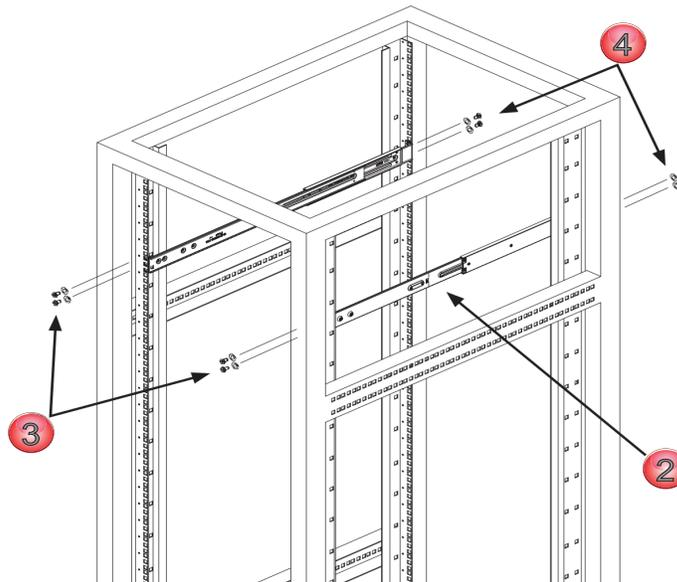
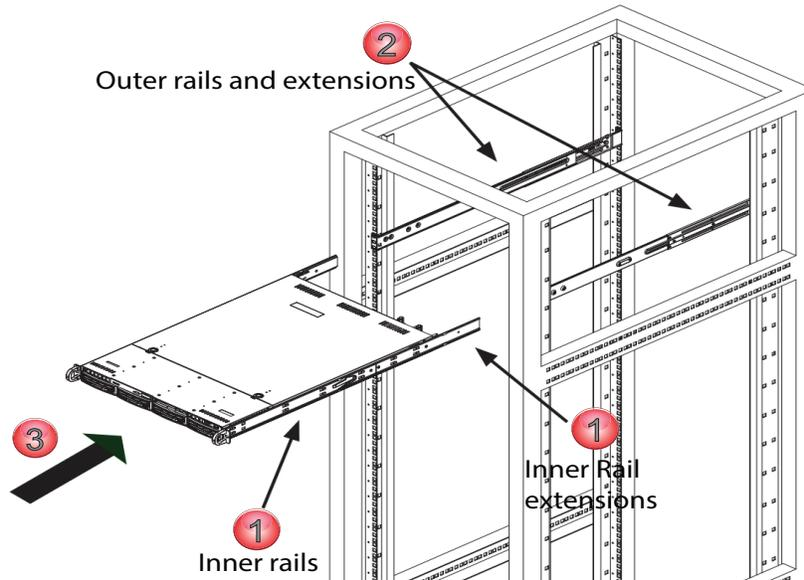

Figure 3-4: Install Outer Rails to Rack
Figure 3-5: Install Chassis to Rack
WARNING: *The illustrations in Figure 3-4 and Figure 3-5 are for general guidance purposes only. Always install the Device chassis to the bottom of the rack first to avoid the rack becoming top heavy.*
2. Adjust both sections of the outer rail to the proper length so that the rail fits snugly within the rack, Figure 3-4.
1. Confirm that the inner rails and rail extensions have been installed on the chassis, Figure 3-5.